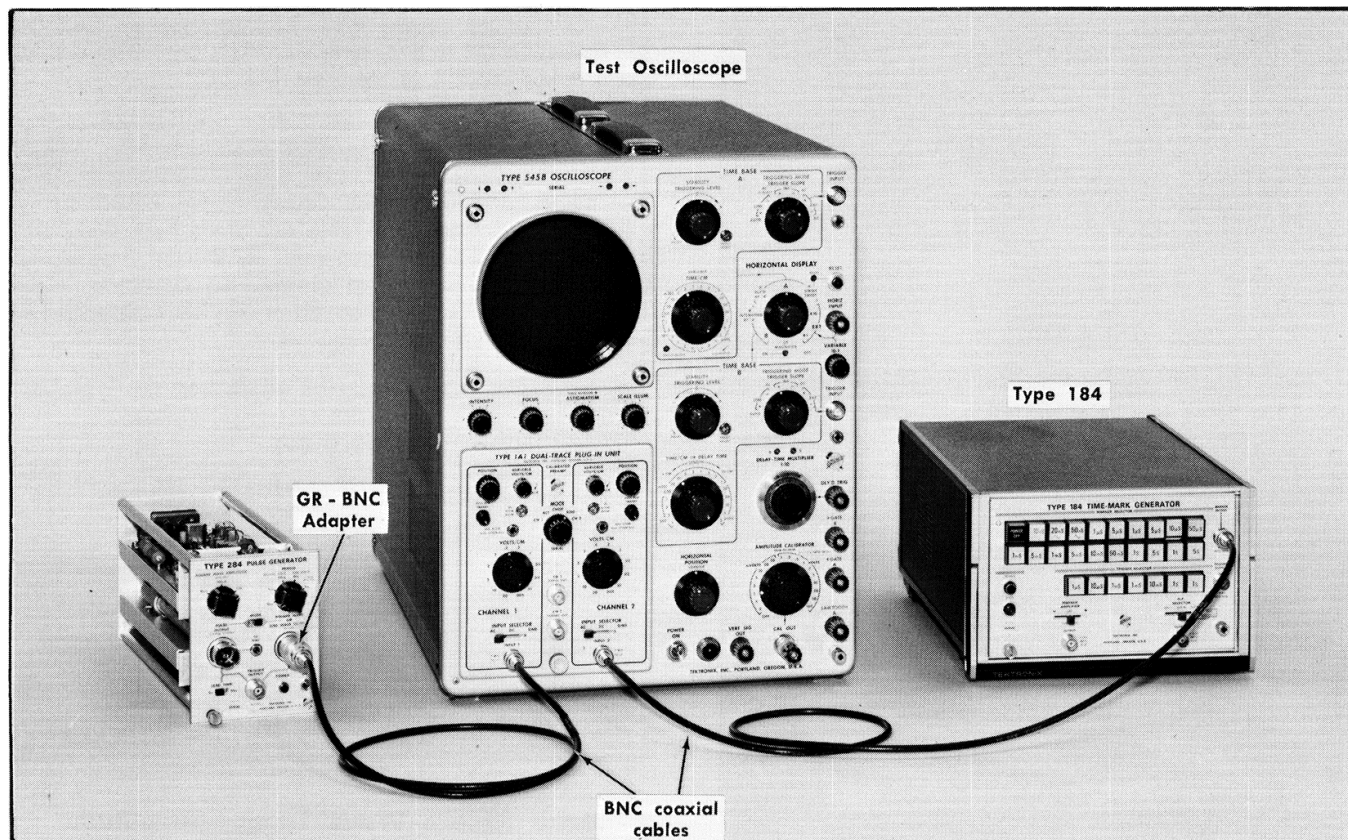

Fig. 6-12. Equipment setup for steps 7 and 8.
a. Use the equipment setup in Fig. 6-12. Connect the Marker Output signal from the Type 184 through a BNC 50 Ω coaxial cable to the Input 2 connector on the Type